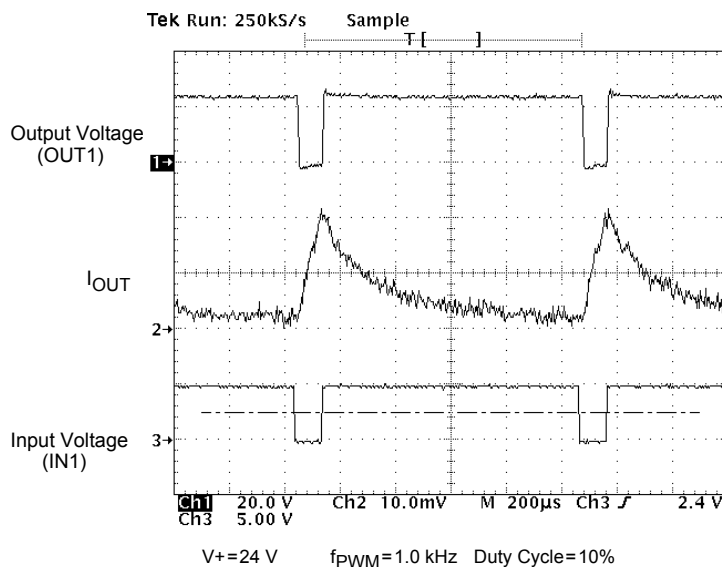

Figure 12. Output Voltage and Current vs. Input Voltage at V+ = 24 V, PWM Frequency of 1.0 kHz, and Duty Cycle of 10%
- 24 The outputs can be PWM-controlled from an external source. This is typically done by holding one input high while applying a PWM pulse train to the other input. The maximum PWM frequency obtainable is a compromise between switching losses and switching frequency. See Typical Switching Waveforms, Figures 12 through 19, pp. 14–17.